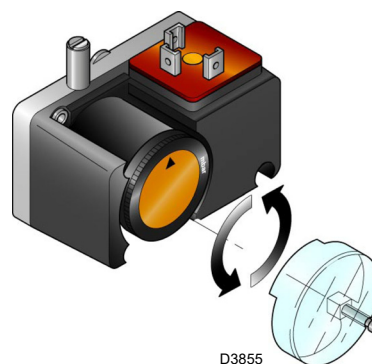

Fig. 35
- Adjust the minimum gas pressure switch (Fig. 35 at page 34) to the start of the scale.
Adjust the minimum gas pressure switch (Fig. 35) after having performed all other burner adjustments with the pressure switch set to the start of the scale.